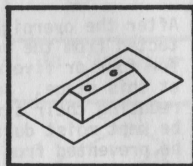

Fig. 22 - "Frog" Mold.
71. Frog A wooden "frog" (see Fig. 22) is used in the box to produce a block with a partially hollow core. The advantage of this block is that it uses only four-fifths the mixture used in a regular block -- reducing both cost and labor. These blocks are also ideal for designing patterns in walls using blocks laid on edge. The "frog" must be kept clean.